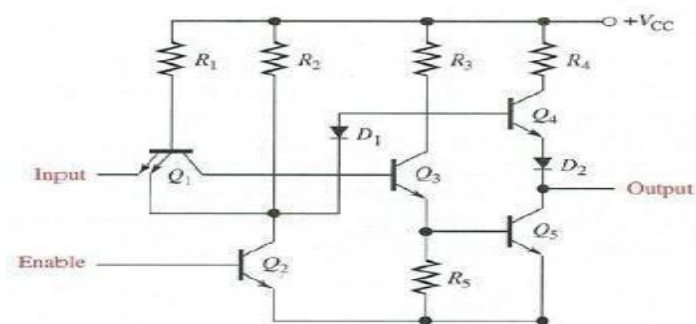

Fig 4.2: Tristate TTL Gate
An open collector inverter circuit is shown in the fig 6.2. In the single-input (inverter) circuit, shown in fig 4.2 grounding the input resulted in an output that assumed the "high" (1) state. In the case of the open-collector output configuration, this "high" state was simply "floating." Allowing the input to float (or be connected to V_{CC}) resulted in the output becoming grounded, which is the "low" or 0 state. Thus, a 1 in resulted in a 0 out, and vice versa. Since this circuit bears so much resemblance to the simple inverter circuit, the only difference being a second input terminal connected in the same way to the base of transistor Q_2 , we can say that each of the inputs will have the same effect on the output. Namely, if either of the inputs is grounded, transistor Q_2 will be forced into a condition of cutoff, thus turning Q_3 off and floating the output (output goes "high"). The following series of illustrations shows this for three input states (00, 01, and 10):